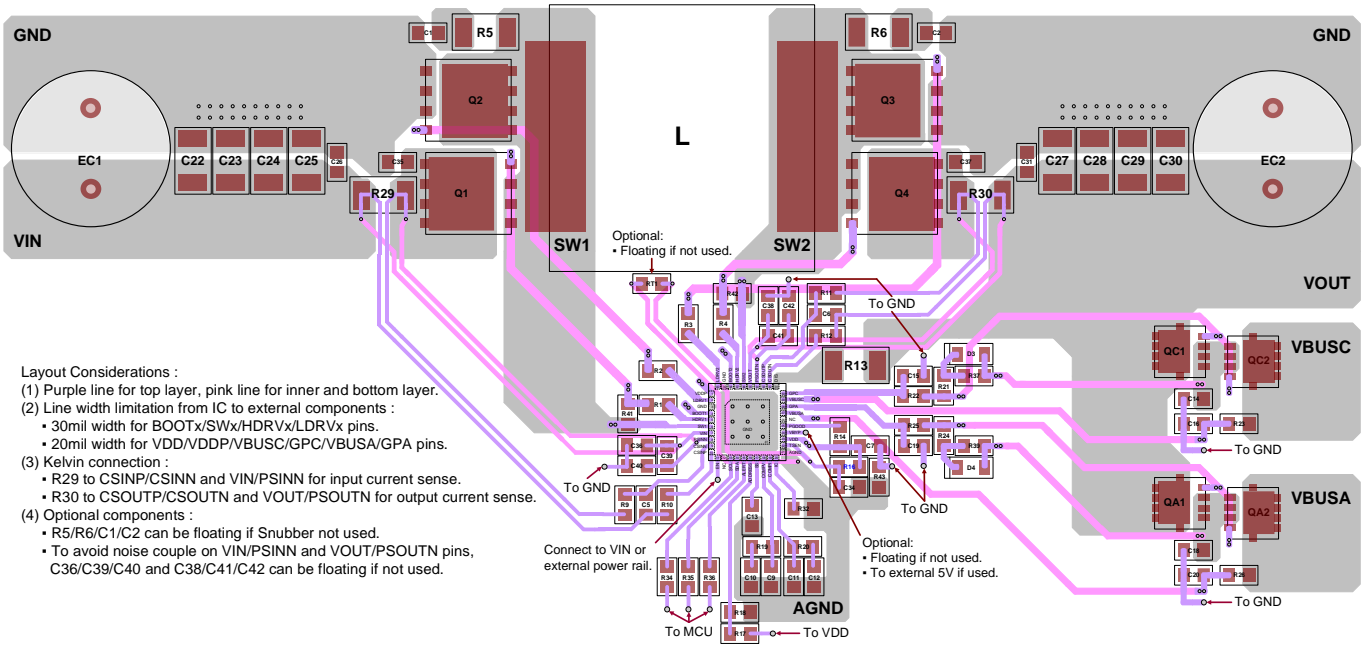
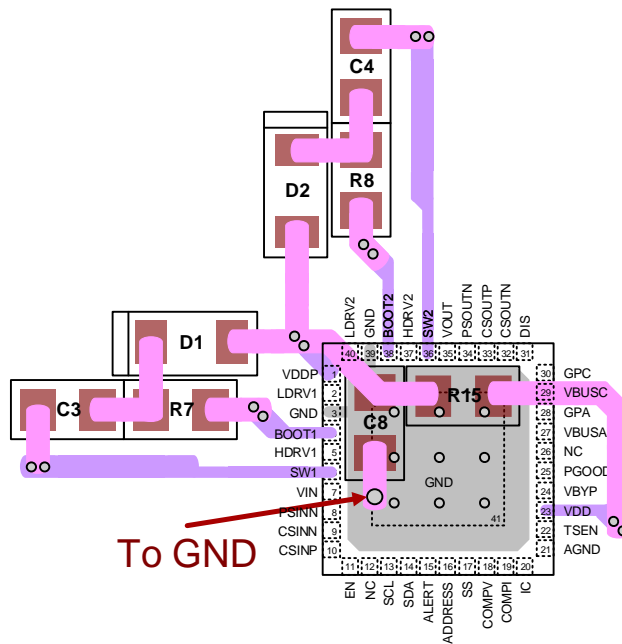

Figure 7. PCB Layout in Top Layer
Figure 8. PCB Layout in Bottom Layer
- Figure 7. and Figure 8. are the layout example that uses four-layer PCB in size of 132mm x 90mm with 1oz copper thickness.